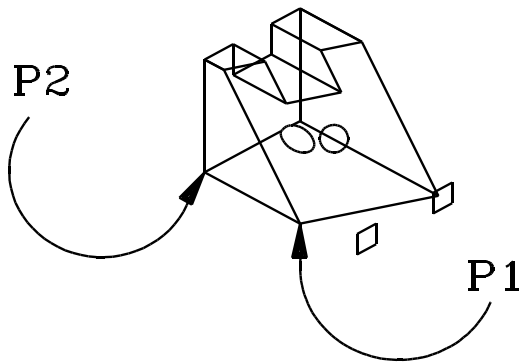

Figure 25
63. Click on point P1, then P2, then P1 again. (See Figure 25.)